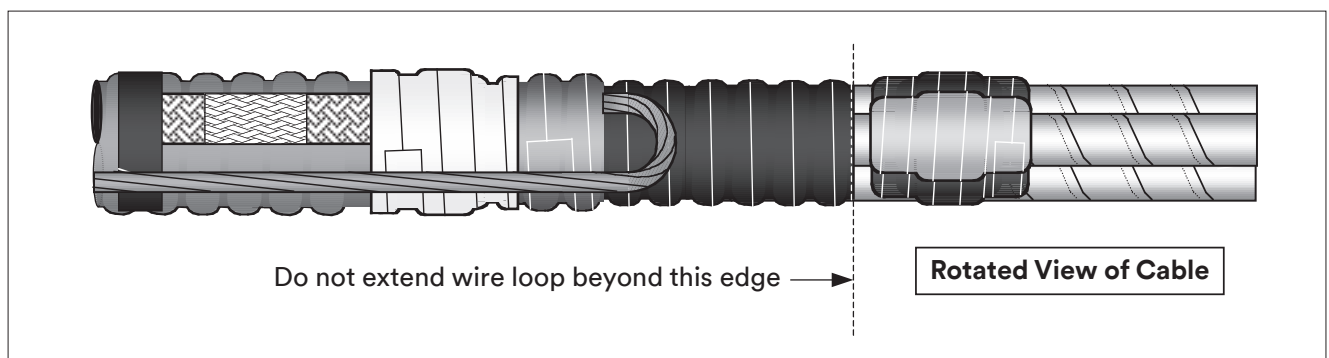

Figure 6
- 3.9 Loop cable ground wire back over armor (Figure 6). Adjust ground wire position over cable jacket to run parallel with tail of ground braid assembly.